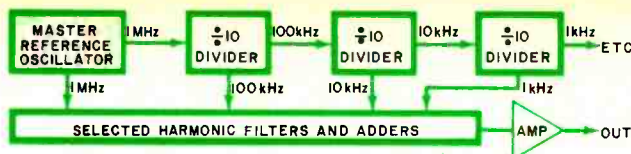
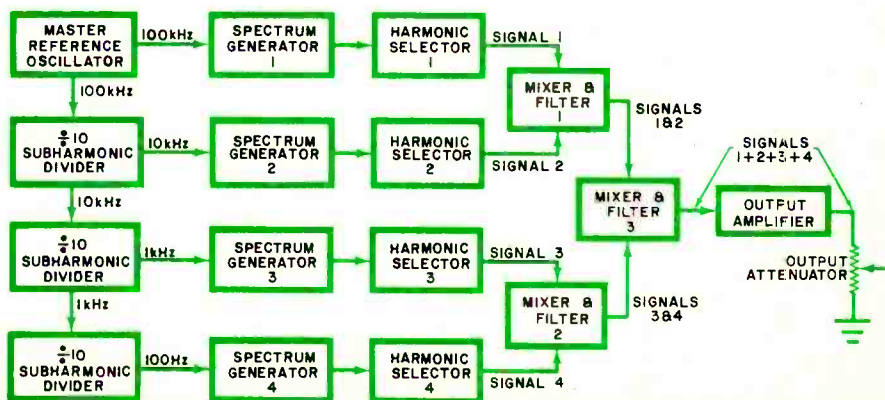

Fig. 1. Basic process of frequency synthesis.
Fig. 2. A semi-complete setup for a frequency synthesizer.
The basic process of frequency synthesis is illustrated in Fig. 1. The output of the master reference oscillator is divided in several steps into precise subharmonics that are then recombined as needed to synthesize the desired frequency. For example, the master reference oscillator might generate a 1-MHz signal and each divider might subdivide the frequency of the signal fed to its input by a factor of 10. In this manner, the output of the first divider is 100 kHz, the second divider is 10 kHz, and the third divider 1 kHz. And so on down the line to possibly a 1-Hz division. (Each divider also provides harmonics of its own output
**Practical Synthesizer.** So far, we have been discussing the theoretical frequency synthesizing system. The setup shown in Fig. 2 represents a more practical but still far from complete frequency synthesizing system. As is the case in Fig. 1, the master reference oscillator in Fig. 2 has the two output lines common to such oscillators in synthesizers.